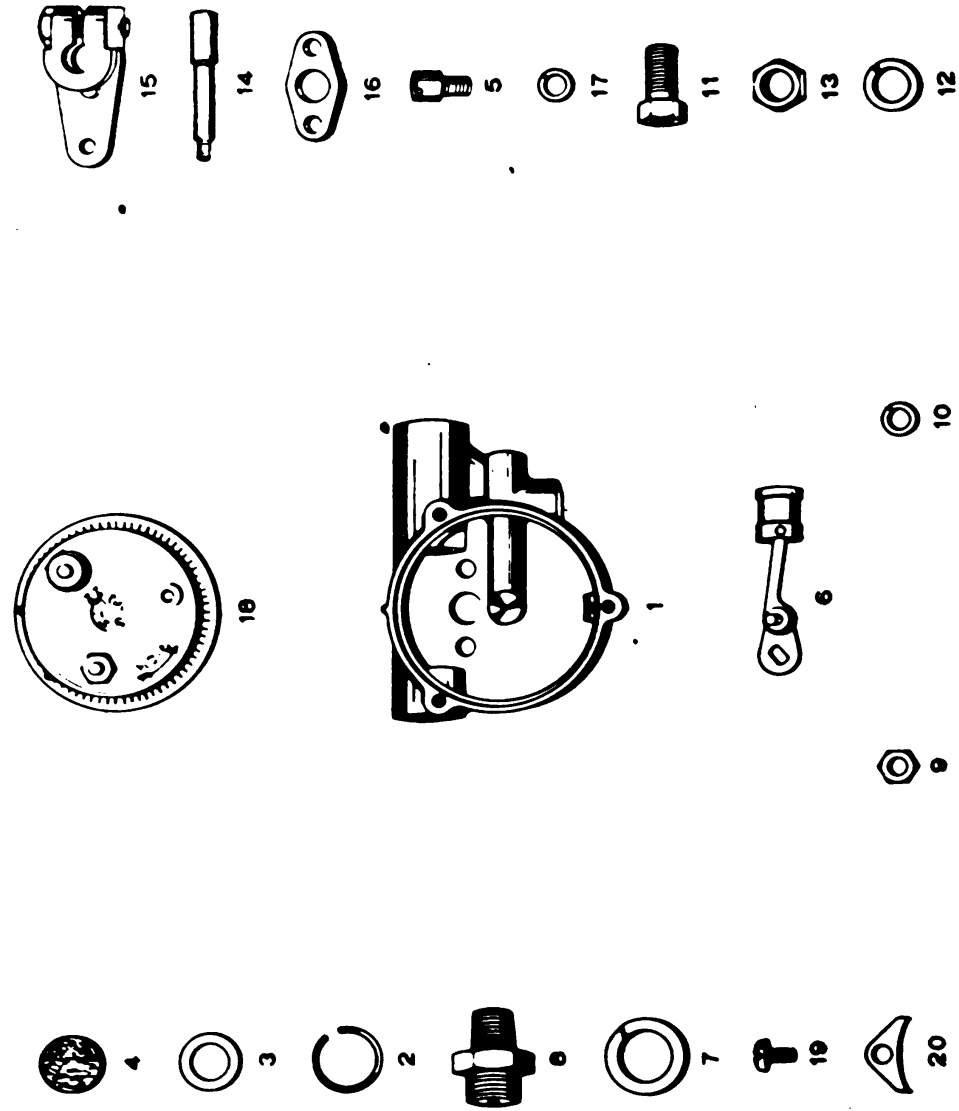

Figure 19.—Automatic choke disassembled
e. Automatic choke (figure 19).—